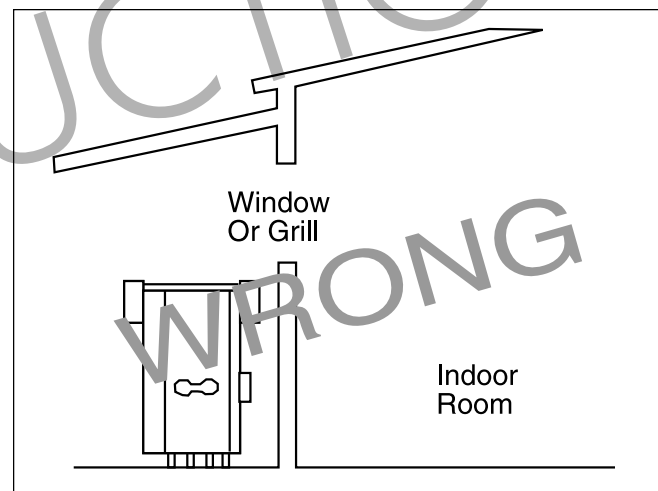

Figure 5. Incorrect Outdoor Installation.
3. Never install the heater under any kind of roof overhang. Do not place the heater below or adjacent to any doors, windows, louvers, grills, etc., which connect in any way with an inhabited area of a building. This includes other structures such as garages or utility rooms (see Figure 5).